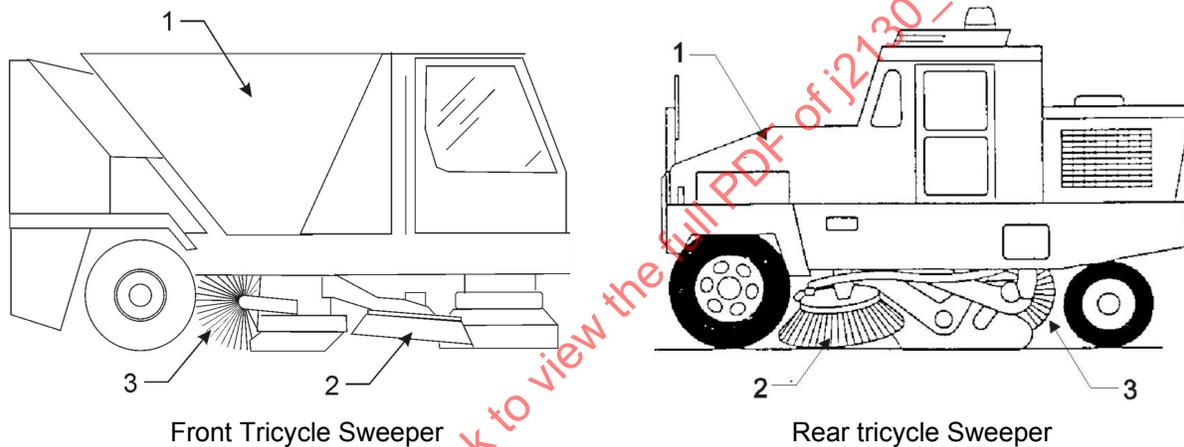

FIGURE 1A - INTEGRAL CHASSIS TRICYCLE CONFIGURATION SWEEPER
4.1 Integral chassis, tricycle configuration, sweepers with a maximum transport speed of less than 32 km/hr. (Figure 1a).